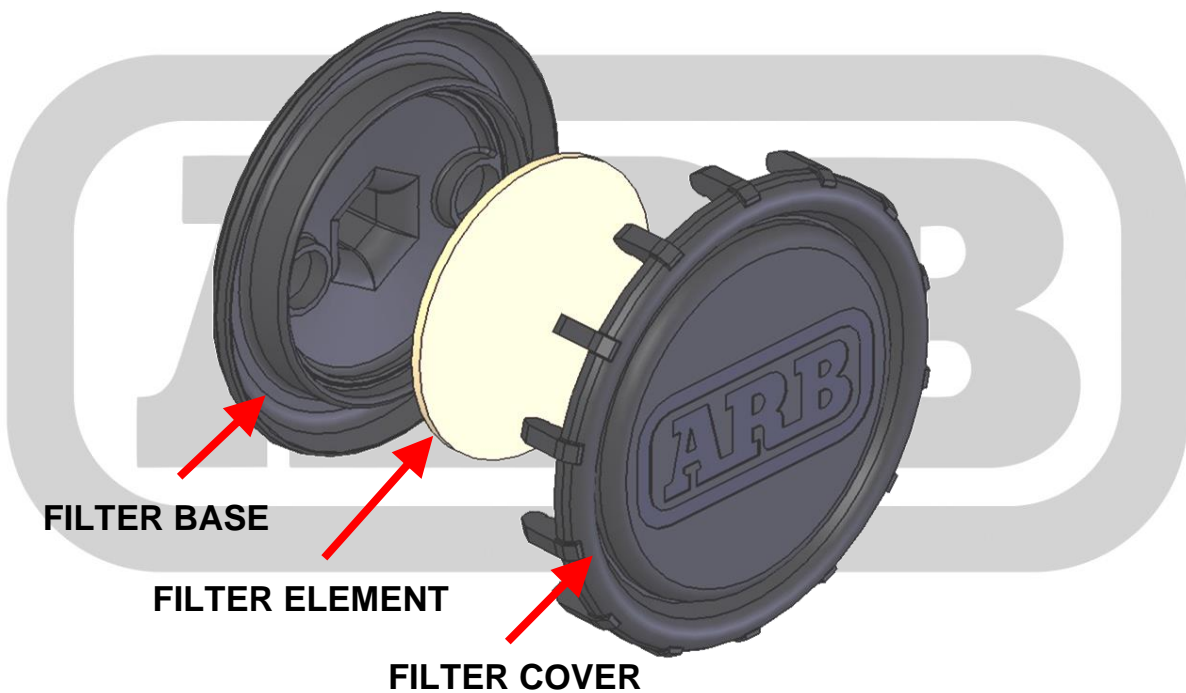

Figure 11. ARB Air Filter Assembly (320501)
- ☐ Assemble an aluminium washer onto the banjo bolt and insert through the banjo fitting. Assemble second aluminium washer and tighten into bulkhead fitting using a 14 mm [9/16"] spanner. (Fig.11.)